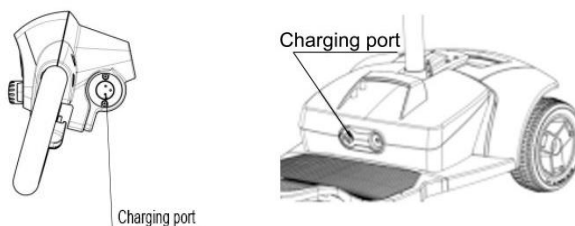

Figure 10.3
There are two charging ports. The first one is located on the lower left side of the dashboard, and the second one is at the front of the battery box (Figure 10.3).
2. Connect the charger. Rotate the cover on the charger connector located on the battery pack and connect the charger, as shown in (Figure 10.3).